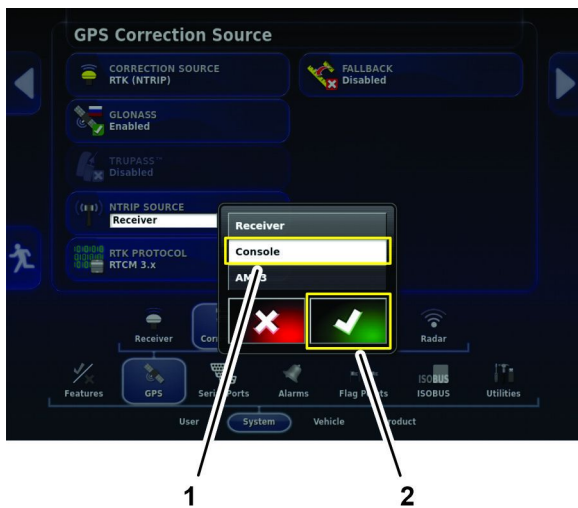

Figure 116
6. In the NTrip Source dialog box, press the CONSOLE icon then press the confirm icon (Figure 116).